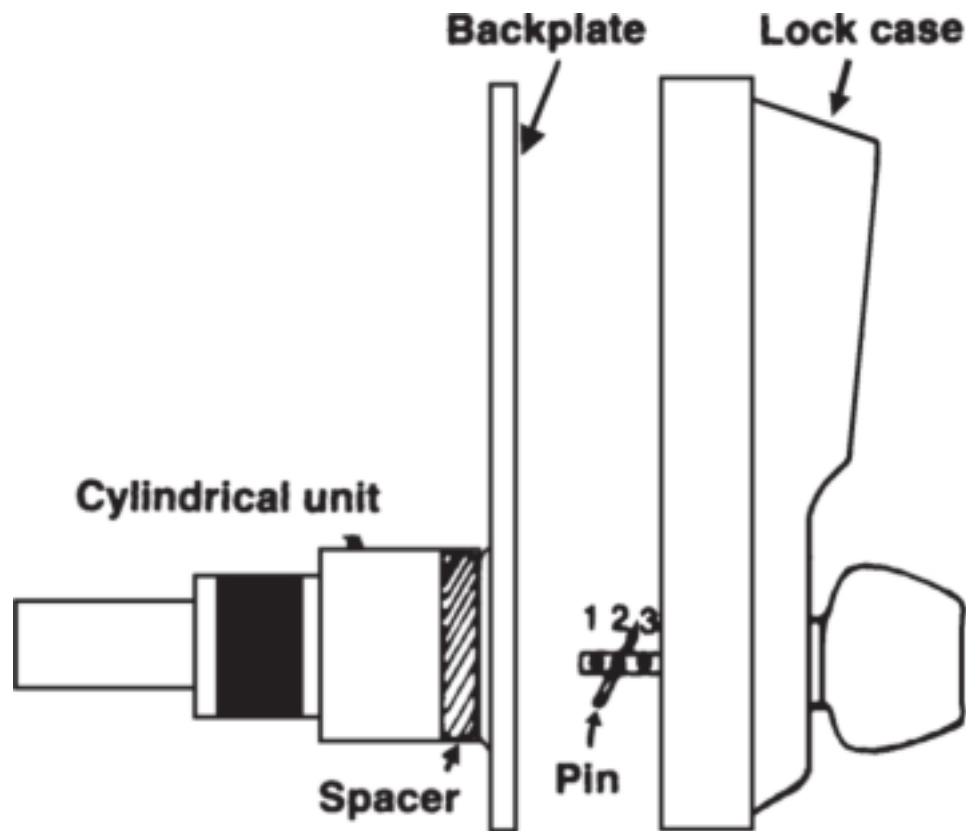

**Figure 18.35** Backplate assembly and cylinder unit must be removed to adjust the lock for door thickness variations. (*Simplex Access Controls Corp.* )
***Adjusting for different door widths.*** All locks are factory set for a 1 $\frac{3}{4}$ -inch-thick door. To adjust for a 1 $\frac{3}{8}$ - to 1 $\frac{1}{2}$ -inch door, remove the backplate and cylindrical unit assembly from the lock case and remove the spacer that is positioned between the cylindrical unit and the backplate (Fig. 18.35). Reassemble the cylindrical unit with the shorter ( $\frac{1}{2}$  - x  $\frac{1}{4}$ -inch) screws provided with the unit. Insert the roll
pin in the front knob shaft one hole closer to the front knob (from position 2 to 3 in Fig. 18.35 ). Again, be sure that there are two lockwashers under each screwhead joining the cylindrical unit to the backplate.
To adjust for 2- to 2¼-inch doors, follow the previous instructions but add the extra spacer provided (lip edge to lip edge) to the one already assembled to the lock. Use the longer ( $\frac{9}{16}$  - x  $\frac{3}{4}$ -inch) screws provided, and insert the pin in the shaft in the hole farthest from the front knob (from position 2 to 1) in the shaft in the hole farthest from the front knob (from position 2 to 1 in Fig. 18.35 ). When remounting the cylindrical unit, be sure it is centered in the hole in the backplate and turns freely. Ensure that the two lockwashers are under each screwhead.